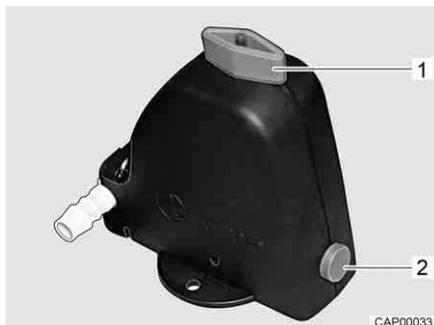

Fig. 237 Safety/drainage valve (Truma)
- Open the safety/drainage valve (Truma). To do this turn the knob (Fig. 237,1) parallel to the safety/drainage valve. The push button (Fig. 237,2) jumps out.